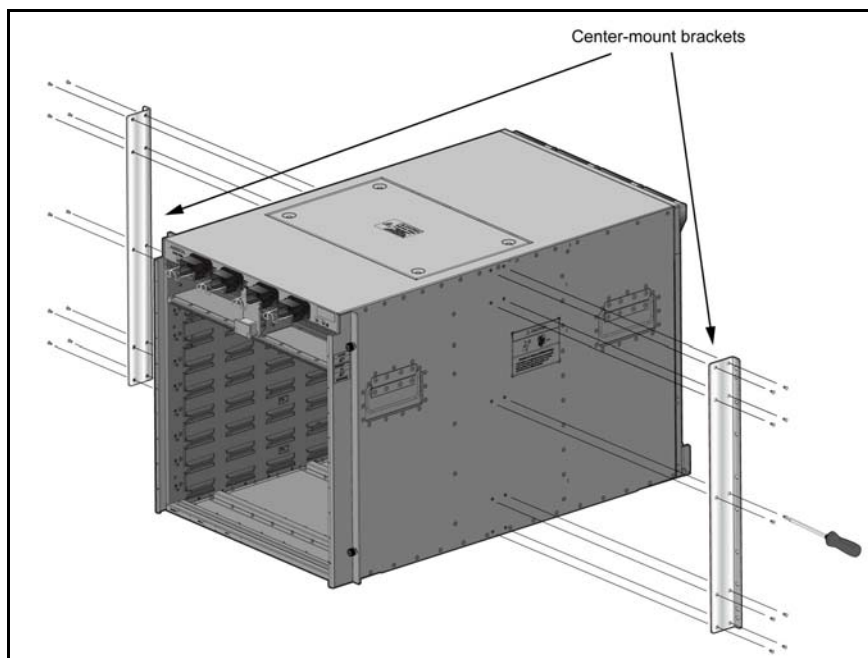

Figure 1: Attaching the Center-mount Brackets
Step 1 Orient the switch chassis and the two center-mount brackets (Figure 1).